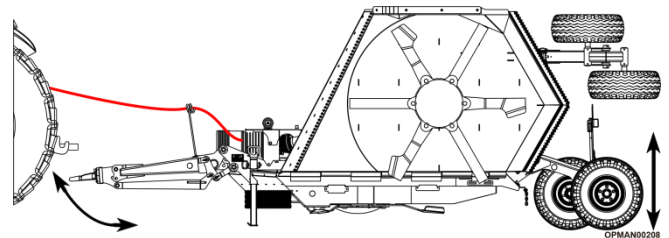

Figure 4.7 – Towing Eye Height Adjustment
- 4.4.2.4 Adjust the height of the centre axle using the tractors hydraulic control levers/buttons until the same height is achieved between the towing eye and clevis hitch of the tractor; see Figure 4.7.
4.4.2.13 For tractors fitted with a fixed pick-up hitch, adjust the centre deck height via the tractor hydraulics so the stand can be fixed at the correct height with the securing pin; see Figure 4.7.